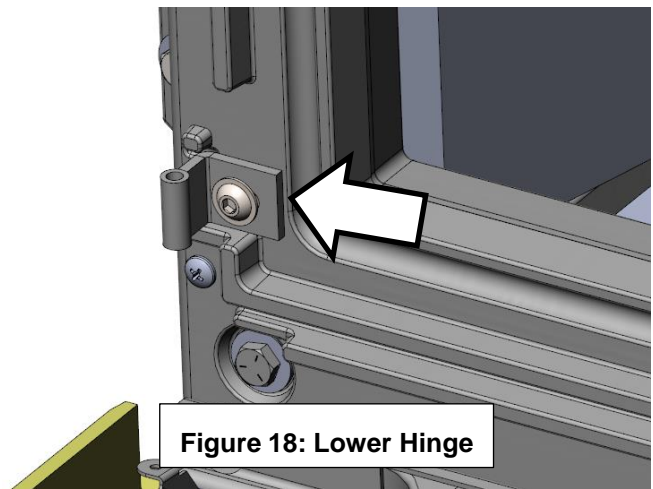

Figure 18: Lower Hinge
**Step 4:** Remove the bottom hinge from the face of the insert. Reinstall the hinges to the opposing side of the stove in the tapped holes from step 2. (Figure 18)